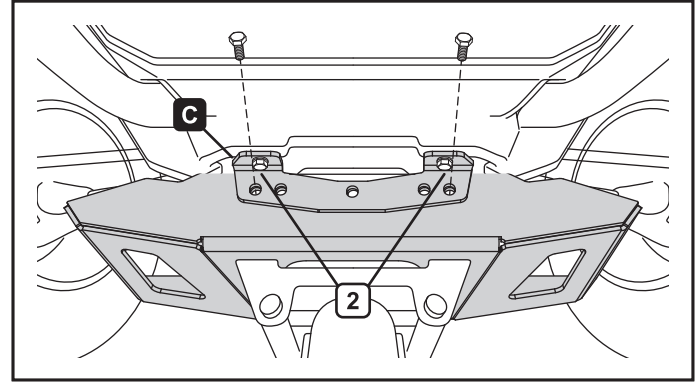

Figure 9.
9. Install the small support bracket (C) with hardware (2) removed in step 1 and the hardware included with your winch into the front winch holes as shown in figure 9.